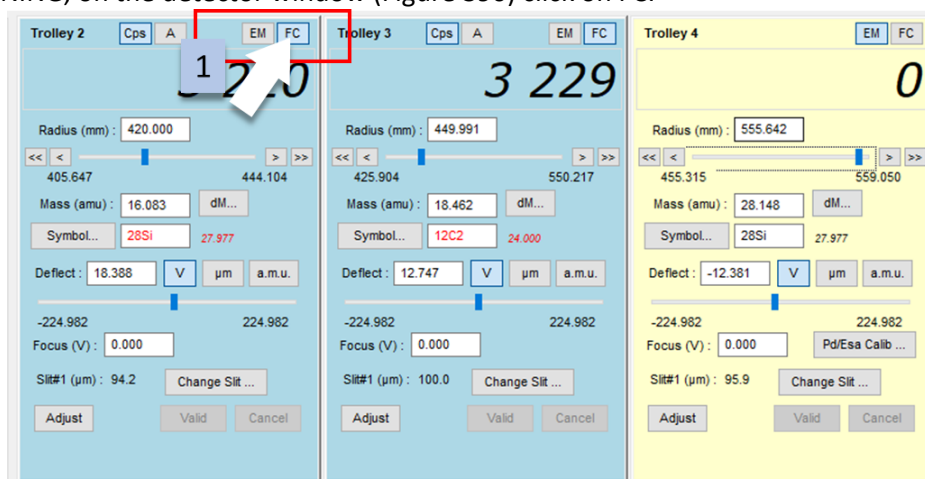

Figure 390: EM/FC button in the detector window of the TUNING
- 1- In TUNING, on the detector window (Figure 390) click on FC.